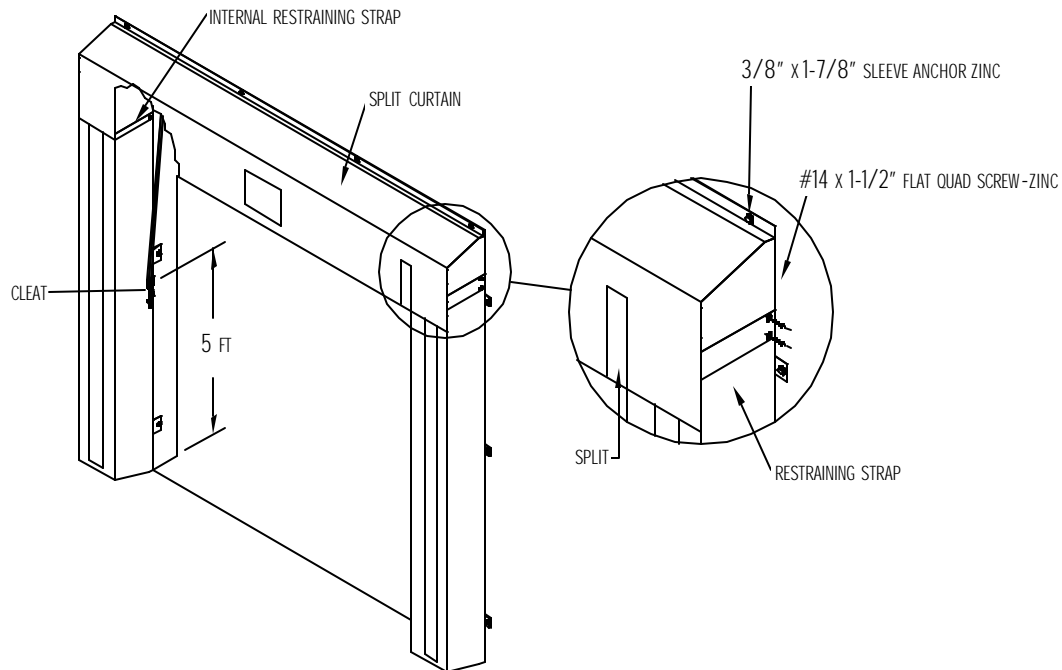

FIG. 02-B
-Feed pull ropes (3 different lengths) through the "D" rings and pulleys (Fig. 02-A).
-Each side of the header seal has two restraining strap(s) (Fig. 02-B) with two grommet holes each.
a. Location (viewing from outside of door to inside). See Fig 02-B: